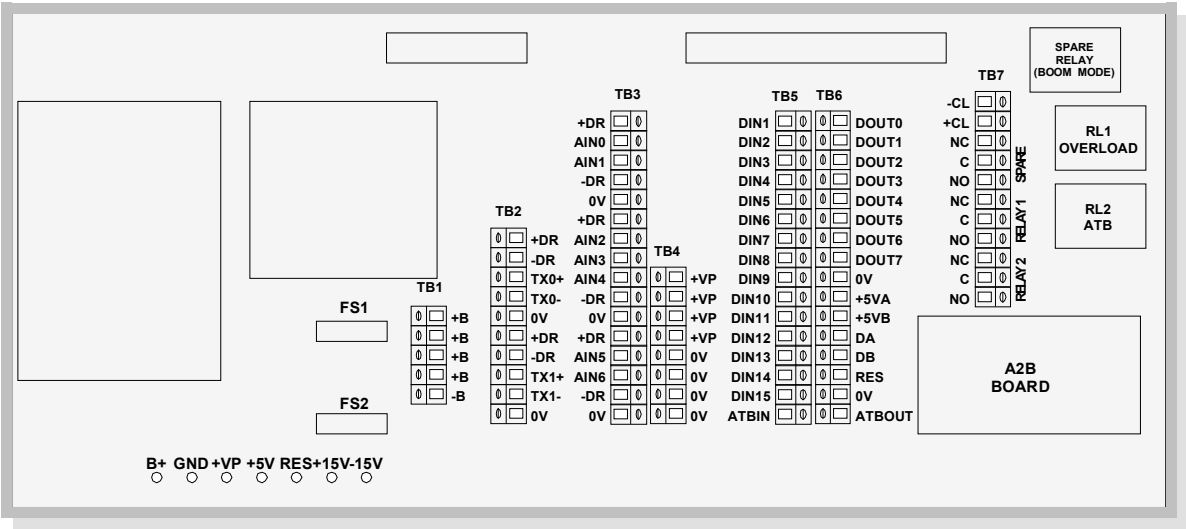

FIGURE 4.2 COMPUTER BOX AND LAYOUT OF THE TERMINATION BOARD
4. Figure 4.2 shows the Computer Box and the layout of the Termination Board.
4. Disconnect the following three wires that connect the key switch on the Computer Board Mounting Plate to the Termination Board (see Figure 4.2).